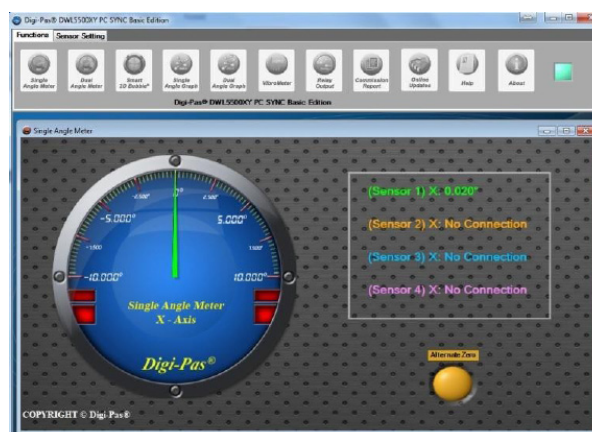

Figure 30. Interface of the PC SYNC software with Single Angle Meter feature
4. Screen as illustrated in Figure 30 appears. The feature icons are enabled and ready for selection (e.g. Single Angle Meter, Dual Angle Meter...). Following is an example when Single Angle Meter feature icon is clicked.